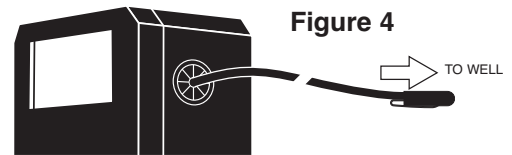

Figure 4
STEP 6 From inside the box, feed the thermistor end of the 48" sensor cord through the plastic grommet to the well (Figure 4).